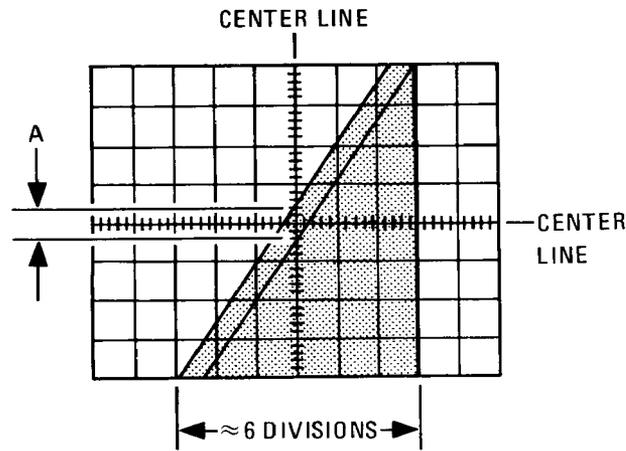

Figure 4-10. Lissajous Pattern for 10 Hz Rate
16. Set the oscilloscope's vertical sensitivity control to 5 mV per division without altering the setting of the sensitivity vernier. Readjust the vertical position to position the center of the upper loop of the Lissajous pattern to the horizontal center line of the display as shown in Figure 4-10. The vertical excursion of the upper loop should be 1.4 divisions or less (labeled A in Figure 4-10).